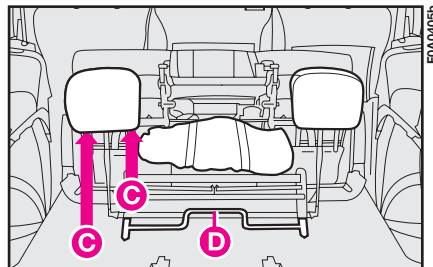

fig. 128
- refit head restraints back into the seats **C**-fig. 128.
To remove the seat in order to increase the boot space, tilt the seat and remove the tool bag (keep it on the vehicle) then use lever **D-fig. 128** to release catches.